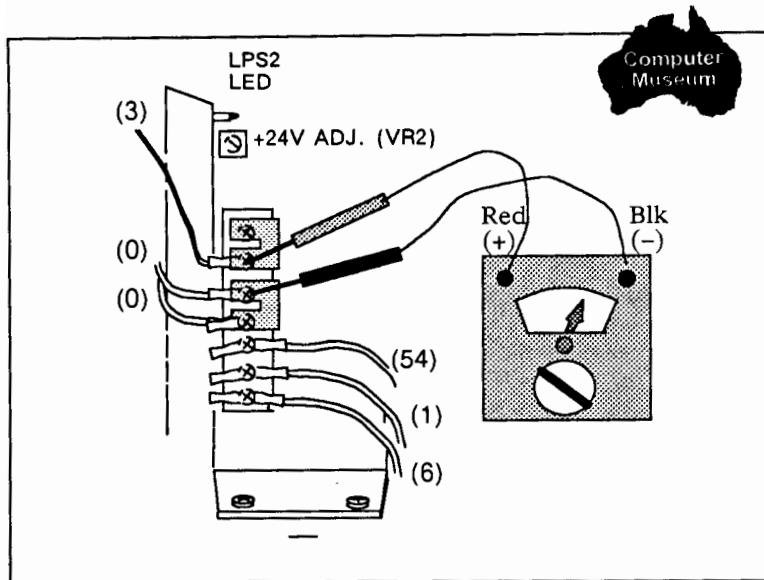

Figure 6-11. +24 V Power Supply Adjustment
- a. Turn the plotter line switch to OFF (O).
- d. Connect the voltmeter probes to the two screw terminals as shown in Figure 6-11.
- e. Turn the plotter line switch to ON (I).
- g. Switch the plotter OFF (O) and remove the voltmeter probes.